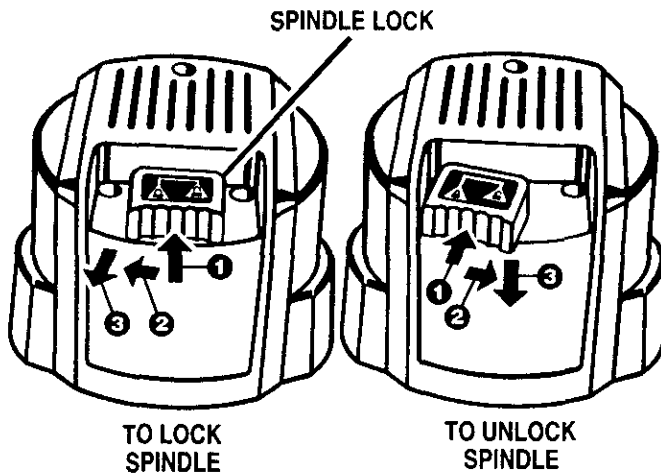

Fig. 2
See Figures 2, 3 and 4.
■ A spindle lock is located on the top of the end cap. See Figure 2. To activate lock, (1) push spindle lock in, (2) slide into lock position, then (3) release spindle lock.
■ Place spindle lock back in unlock position. Otherwise, interlocking mechanism of spindle lock will not let you turn your router on. To unlock spindle, (1) push spindle lock in, (2) slide into unlock position, then (3) release spindle lock. *See Figure 2.*